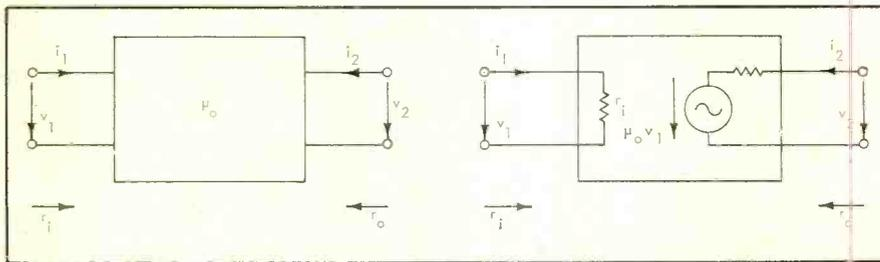
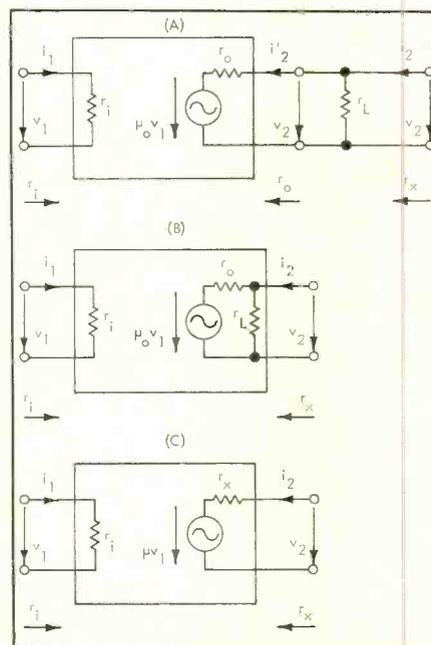

Fig. 17. Active linear four-terminal network and corresponding simplified equivalent network.
Fig. 18. Loaded four-terminal network.
The voltage gain of the loaded amplifier shown in (A) of Fig. 18 is
Since the load resistance,  $r_L$ , may be regarded as an internal part of the amplifier (from the viewpoint of a subsequent stage), it may be drawn inside the "black box," as in (B) of Fig. 18. The resulting new four-terminal network has an "open-circuit" voltage gain of
To simplify calculations, this network may be replaced by the equivalent network shown in (C) of Fig. 18. It has the form of the network in Fig. 17 but now represents the loaded amplifier.